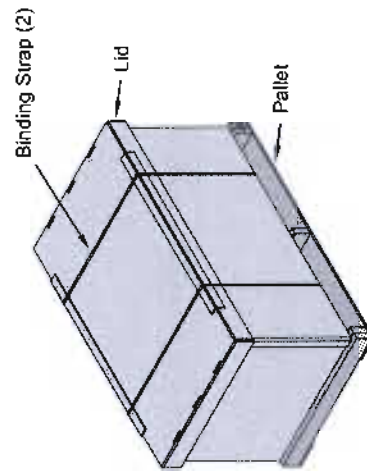

Figure 1-2 Carton lying horizontally on wooden pallet.
1. With the carton lying horizontally on its wooden pallet, cut and remove the binding straps securing the lid (see Figure 1-2). Lift the lid up and off the carton.